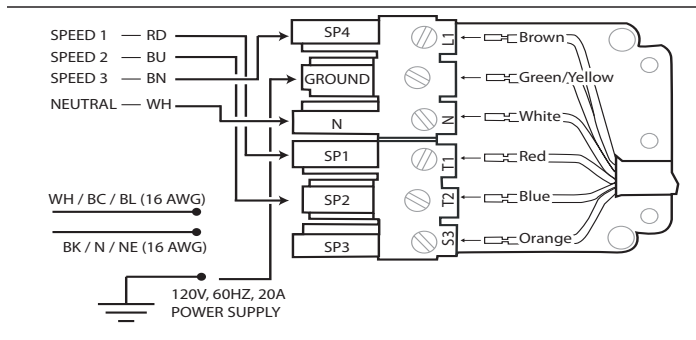

Figure 16: Wiring the Hood with a Remote Blower
- Run five (5) #14 AWG wires in 1" (25.4 mm) conduit from the remote blower to the second conduit connector.
- Connect the remote blower to the pigtail wires as shown in *Figure 16*. Connect the remote blower green (ground) wire to the ground screw in the junction box. Refer to the blower installation instructions for further wiring details.